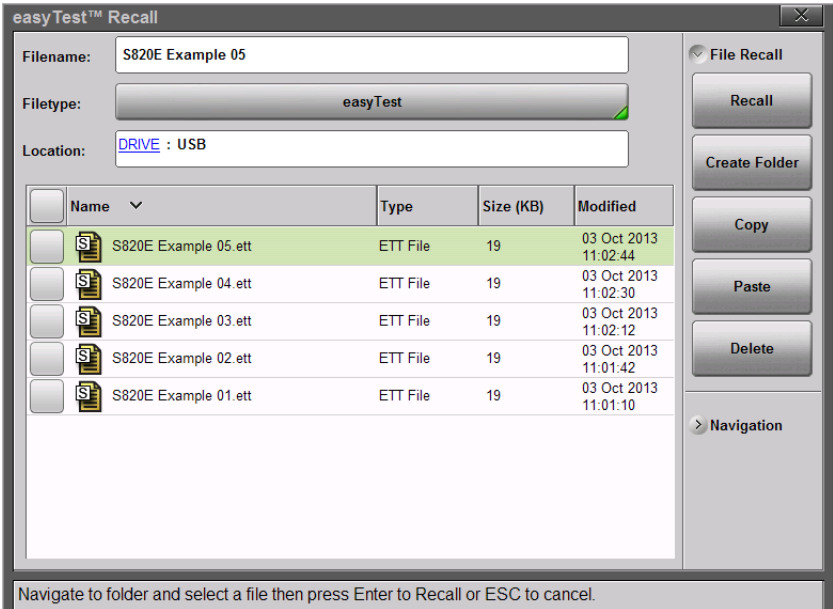

Figure 14-3. Recalling an easyTest File
4. Select the file on the USB Memory stick and press **Recall** or **Enter** (Figure 14-3). Alternatively, copy the file to internal memory and recall the file from that location. Immediately after the .ett file is recalled, the test sequence is executed.